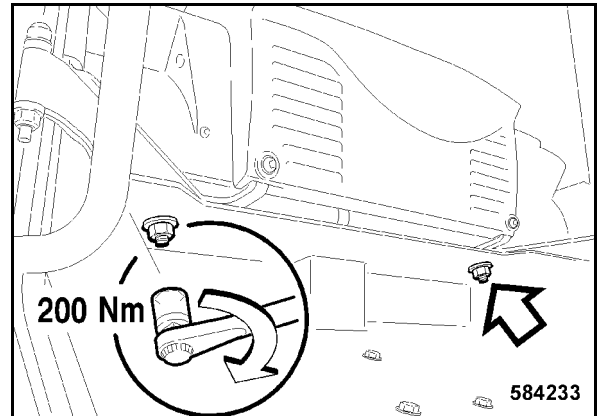

Fig. 216
- Turn nuts with washers onto both studs and tighten with 200 Nm (Fig. 216).